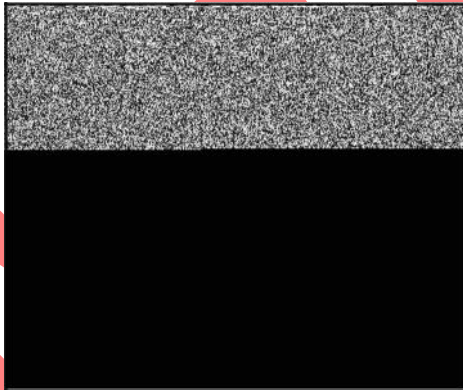

Figure 31
5. Attach red (A, Figure 31) and black (B) test lead probes to the yellow wire (C) AC output terminals (D), of the connector (F).
6. Attach red test lead probe (A, Figure 31) to the red wire (G) DC output terminal (E) of the connector.
7. Attach black test lead probe (B) to negative battery terminal.